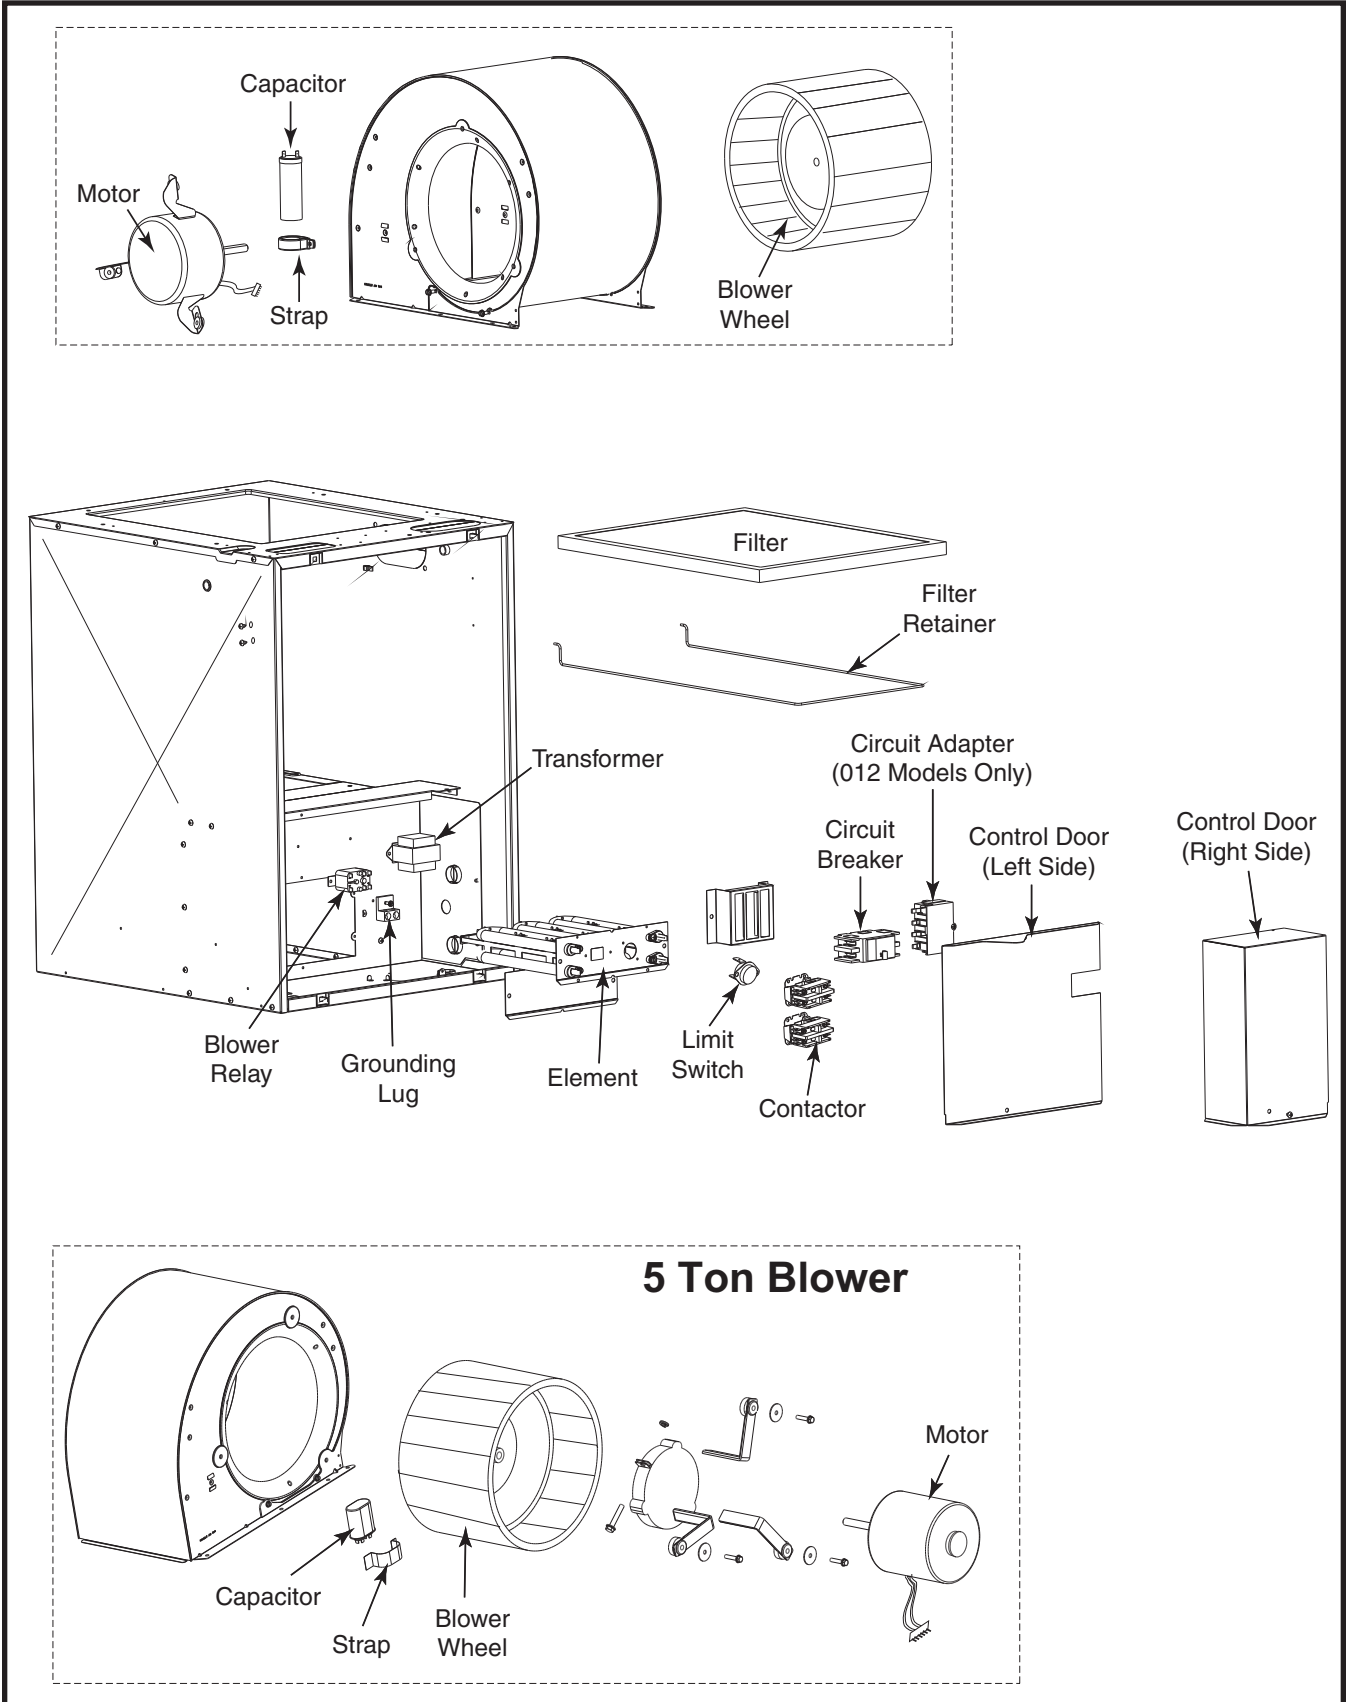

Figure 20. E3 Furnace Components
It is recommended that the line voltage (240 VAC) to the furnace be supplied from a dedicated branch circuit containing the correct fuse or circuit breaker for the furnace. See Table 7 (page 20) for minimum circuit ampacity and maximum over-current protection. See unit wiring diagrams (Figures 23 - 26, pages 21 - 24) for wiring details. Electrical components are shown in Figure 20 (page 17). Supply circuit requirements are listed at the top of page 14:
6. Connect service ground wire(s) to grounding lug(s) provided. One ground is required for each supply circuit used. See Figure 20 (page 17).